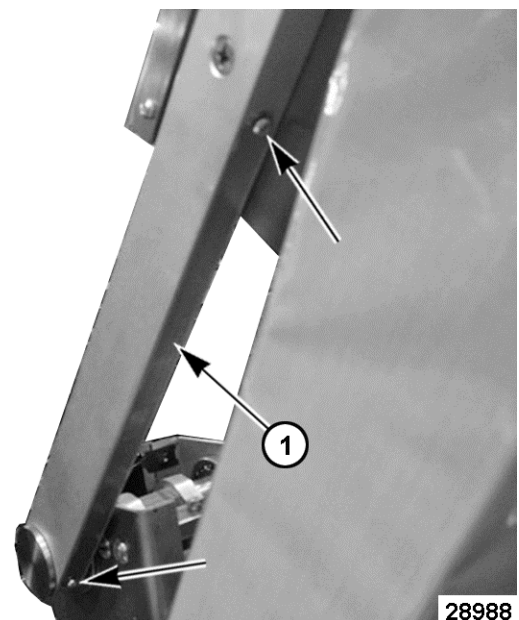

Fig. 8
- C. Fully raise clamshell to access the left arm wireway cover on the bottom of arm. Remove wireway cover (1, Fig. 8) from the bottom of left arm.